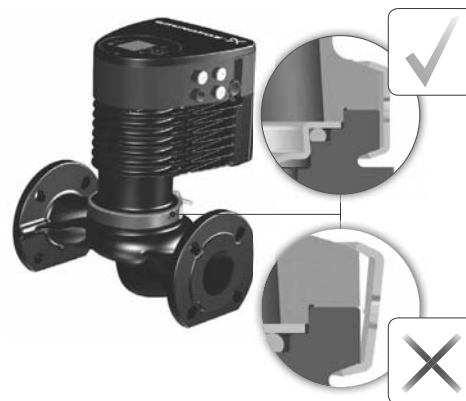

Fig. 13 Fitting the pump head to the pump housing
3. Make sure that the contact face of the pump housing and that of the pump head are in contact before you tighten the clamp. See fig. 13.
Observe the position of the clamp before you tighten it. Incorrect position of the clamp will cause leakage from the pump and damage the hydraulic parts in the pump head. See fig. 13.